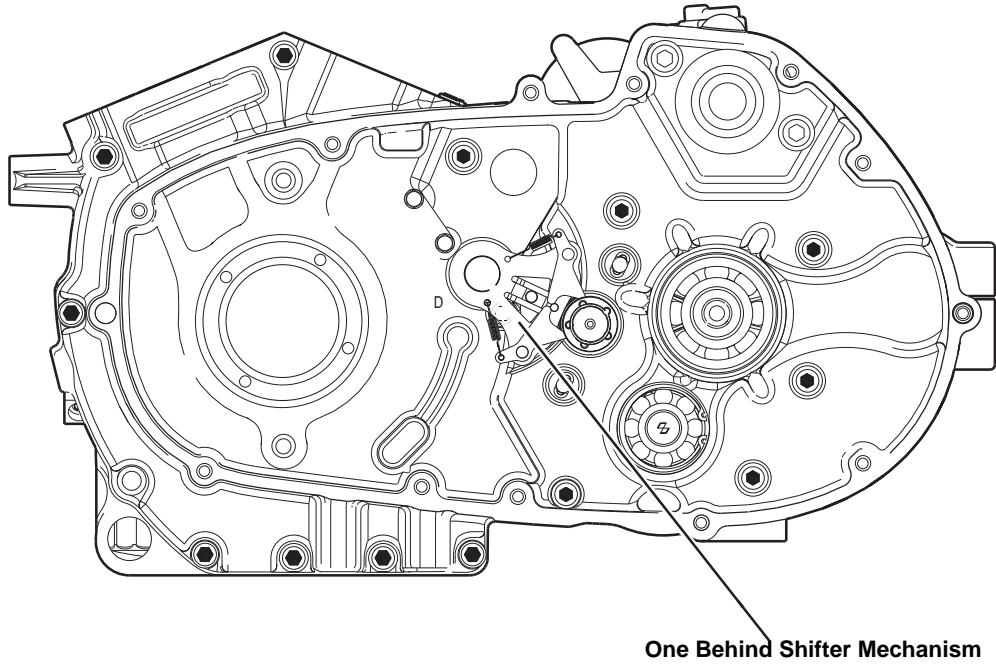

Figure 6-78. Installing Shift Fork Shafts
3. See Figure 6-78. Place the 3rd and 5th gear shifter fork on the appropriate mainshaft sliding gear and install the shifter fork shaft through the two installed shifter forks and into the left case half.
See Figure 6-78. Install shifter fork shafts in the left case half by lightly tapping on the end with a brass hammer until seated in bore.